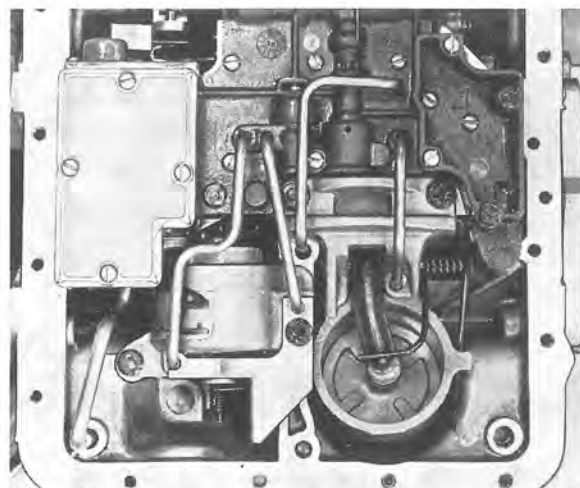
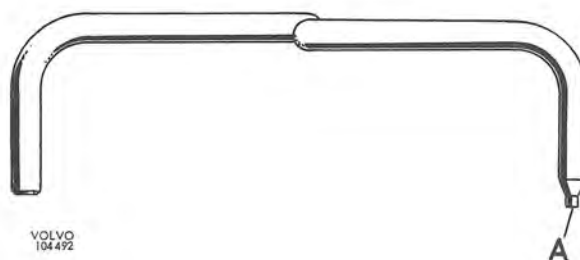

Fig. 4-122. Retention of front and rear pump strainers
Fig. 4-123. Oil tube for valve bodies system, vehicle with B 30 E and F engines
27. Fit the four oil tubes according to Fig. 4-122. Note that the oil tube for releasing the front control cylinder has a construction (A, Fig. 4-123) on vehicles with B 30 E and B 30 F engine. This end is fitted in the valve bodies system.